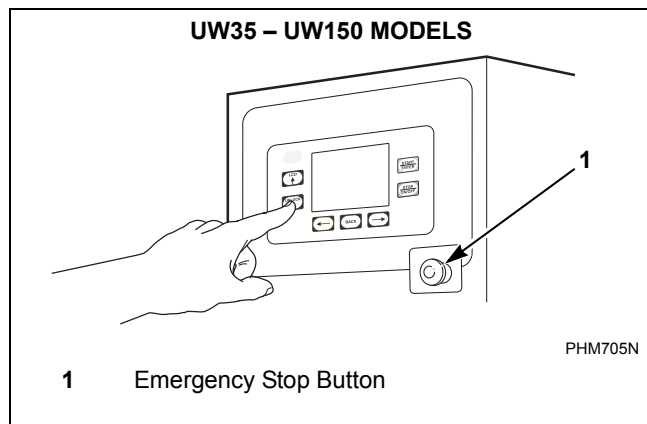

Figure 29
2. Press the door unlock button located on the lower left front on the control. Refer to *Figure 29*.